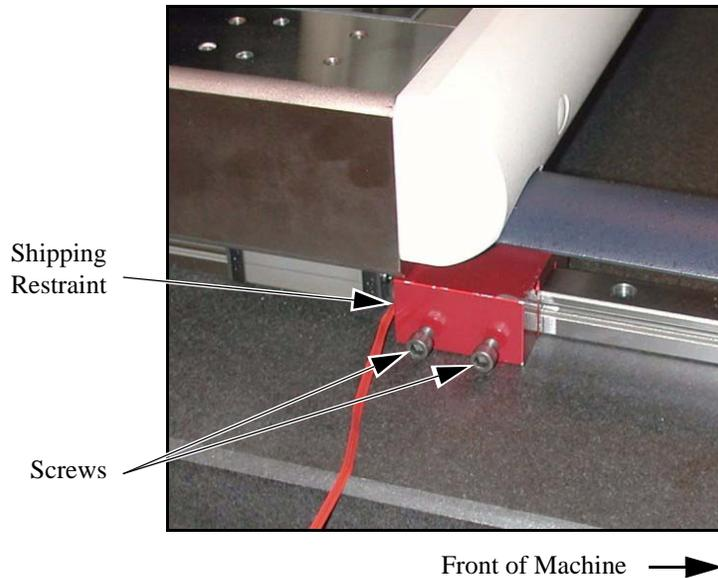

Figure 4-5 Removing the Y-Axis Shipping Restraint
4. Locate the red shipping restraint attached to one of the Y-axis rails, in front of the worktable. This restraint may be located on either side of the machine — in Figure 4-5 below, it is shown attached to Y-axis rail on the left side of the machine.